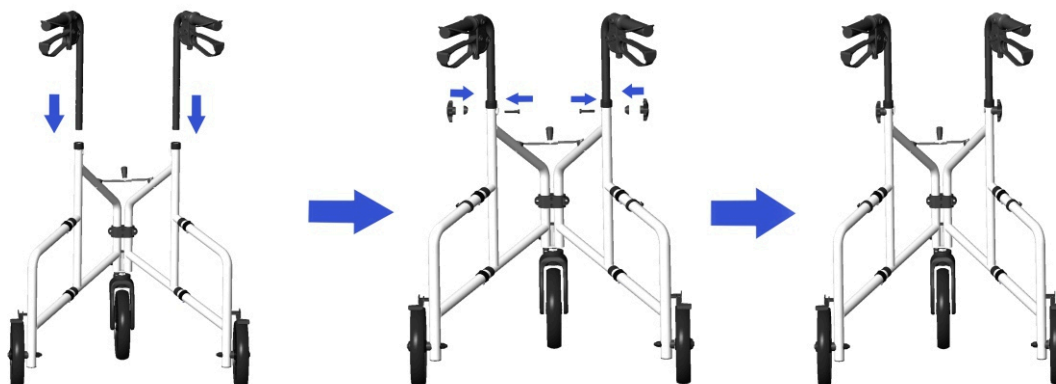

Figure 4
Step 3 (as shown in Figure 4): Take the left armrest tube assembly (2) and the right armrest tube assembly (4), and insert them into the outer armrest tubes of the main frame assembly (1). Select the appropriate armrest height holes. Insert the hex bolt M6×30 (12) through the outer armrest tube of the main frame assembly (1). Install the M6 star knob nut with curved washer (15) onto the hex bolt M6×30 (12) and tighten it.